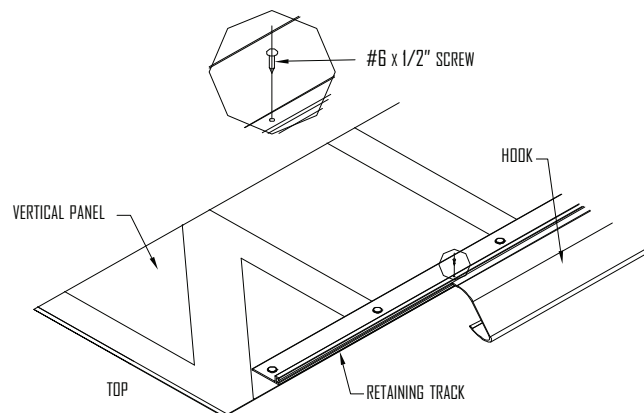

FIG.21
c. Secure hook into place by screwing through retaining track and hook at top of panel (Fig. 21).